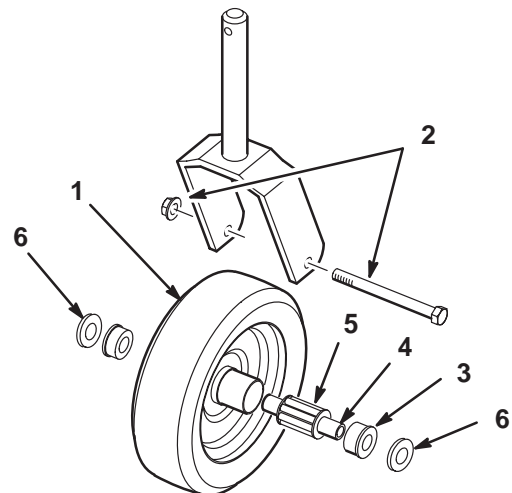

Figure 25
1. Remove the locknut from the capscrew holding the castor wheel assembly between the castor fork (Fig. 25). Grasp the castor wheel and slide the capscrew out of the fork.
2. Pull the spanner bushing out of the wheel hub (Fig. 25).
3. Remove the bushing from the wheel hub and allow the bearing to fall out (Fig. 25). Remove the bushing from the opposite side of the wheel hub.
6. Carefully slide the spanner through the bushings and the wheel hub (Fig. 25).